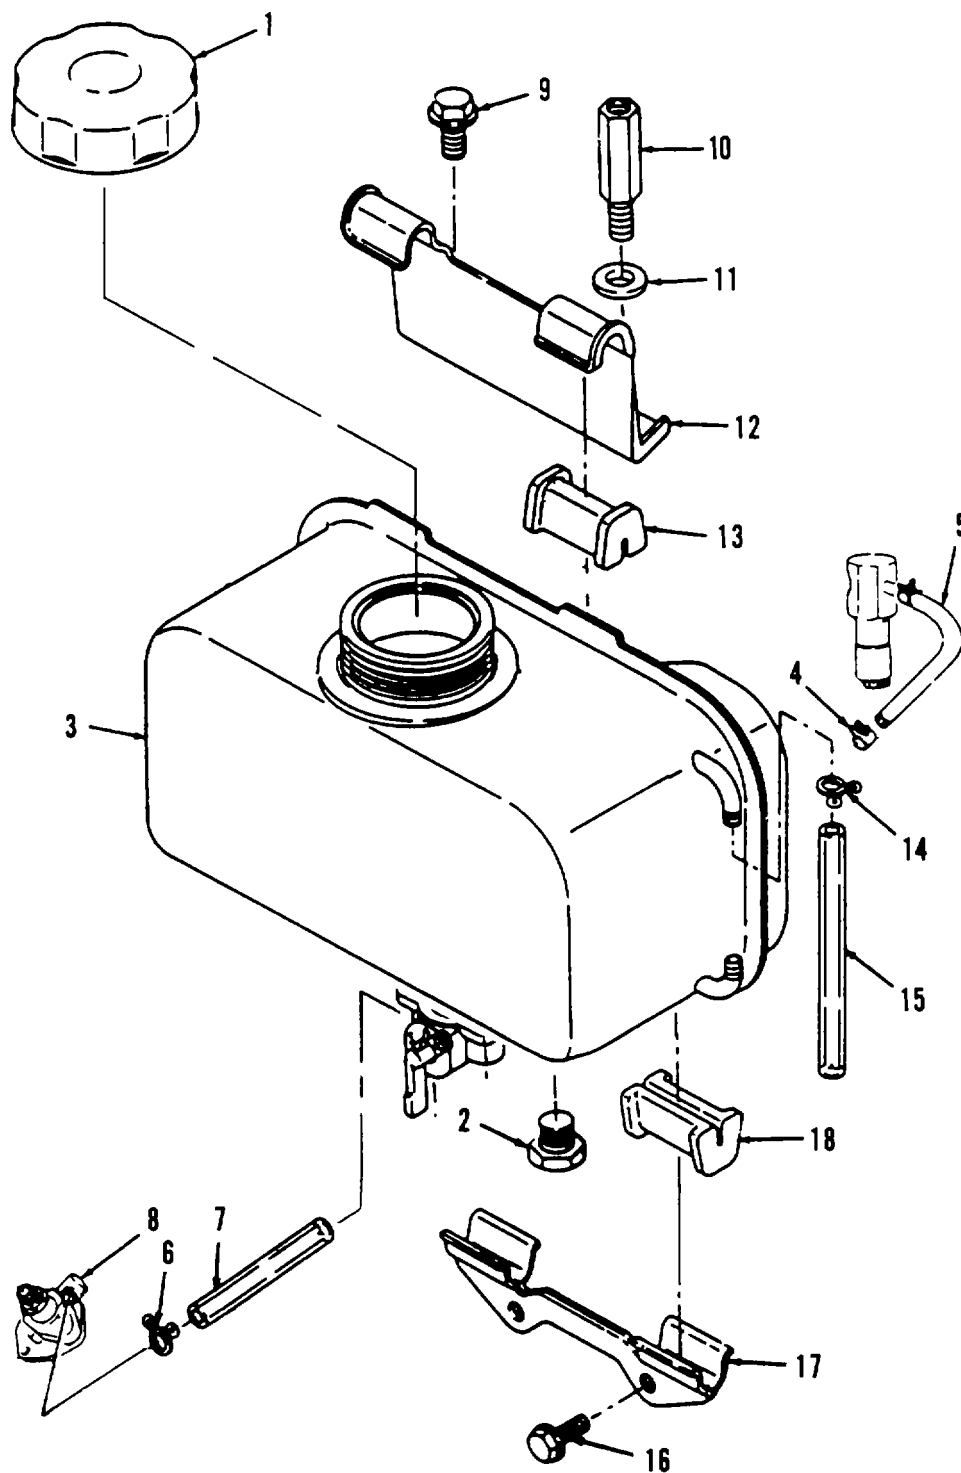

Figure 4-19. Fuel Tank Assembly Repair and Replacement.
a. Removal (Refer to Figure 4-19).
(1) Remove fuel cap (1) and drain plug (2) located at the bottom right corner of the fuel tank (3) and drain out all fuel into a clean container. Dispose of fuel per FM 10-69.
(2) Release hose clamps (4) on overflow hose (5).
(3) Release hose clamp (6) on fuel line (7) at injection pump (8) and disconnect hose from fuel tank (3).
(4) Remove hex head screw (9), lifting bolt (10), and washer (11) securing the upper part of the fuel tank stay bracket (12) and remove stay bracket and two dampers (13).
(5) Remove fuel tank (3).
(6) Remove two clamps (14) and pipe fuel gauge (15).
(7) Remove two bolts (16), stay (17), and two dampers (18).